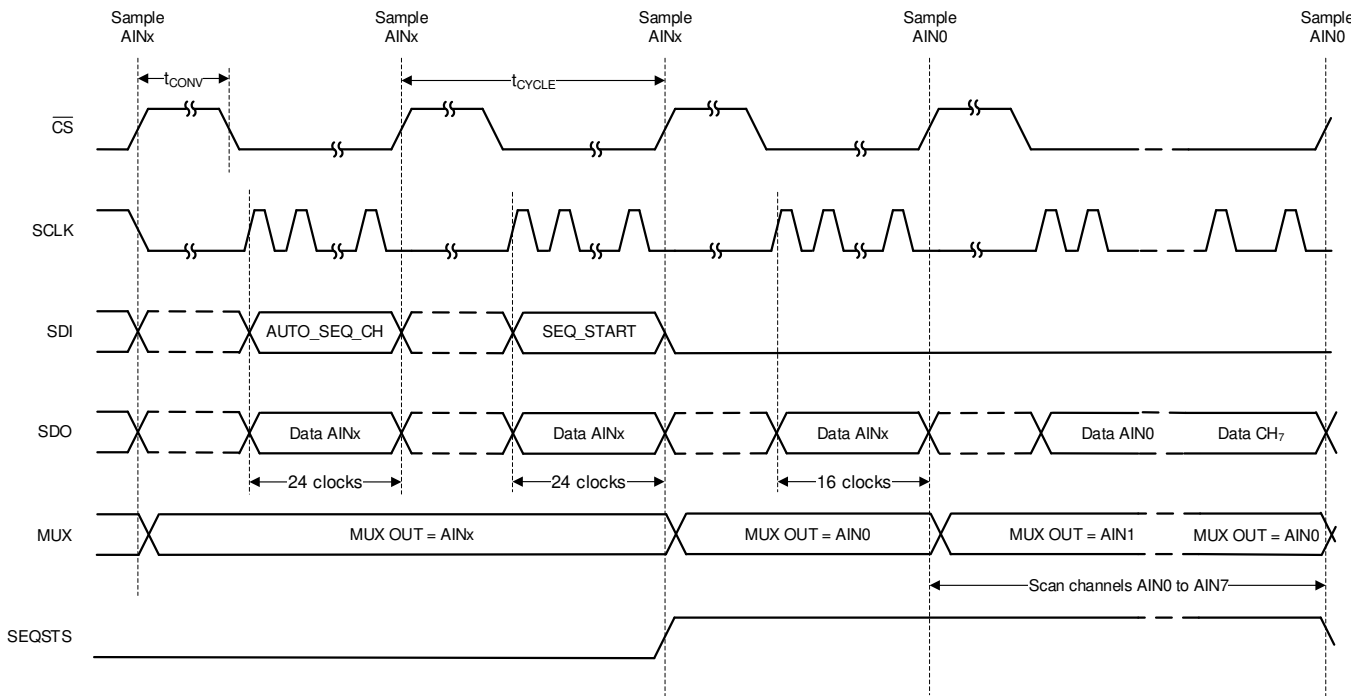
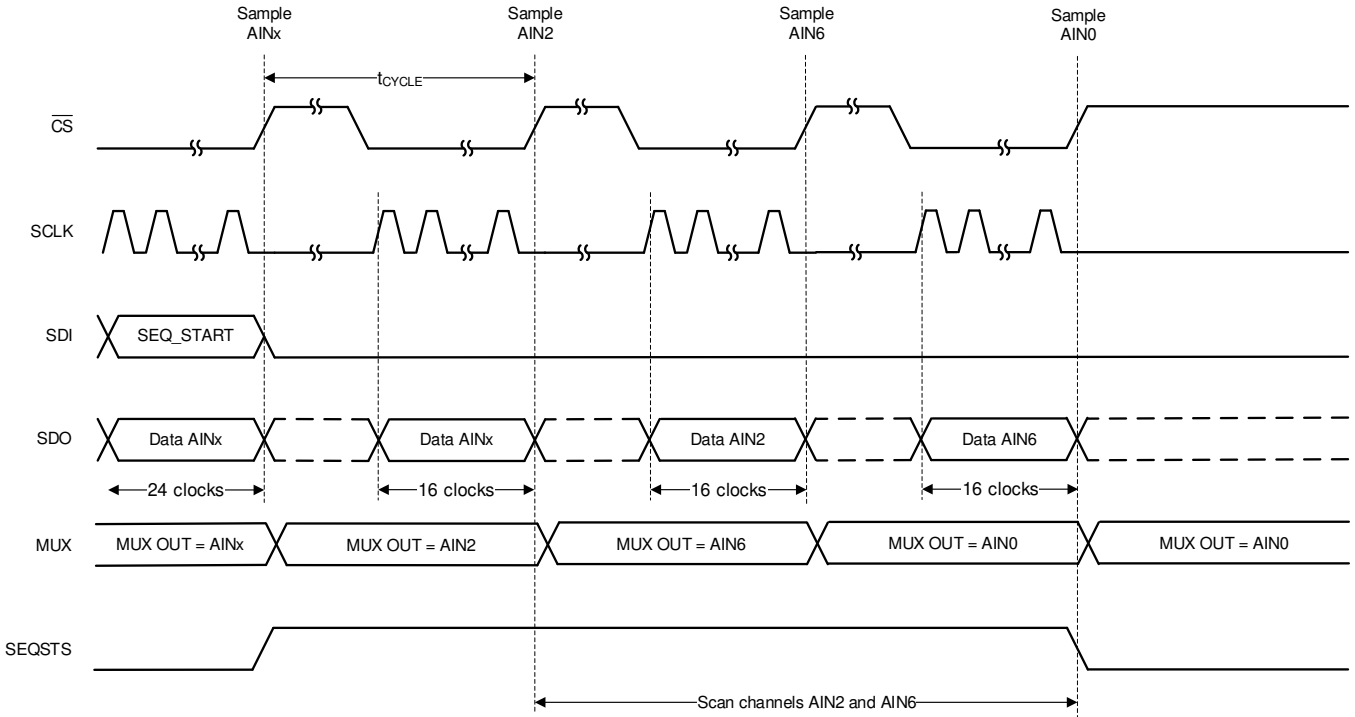

Figure 46. Starting a Sequence in Auto Sequence Mode
Figure 47. Example: Scanning Channels 2 and 6 in Auto Sequence Mode
In auto sequence mode, the internal channel sequencer can selectively scan channels from AIN0 through AIN7 in ascending order. To select auto sequence mode, configure SEQ_MODE to 10b in the DEVICE_CFG register using a 3-byte register access. One or more channels among AIN[7:0] can be enabled by configuring the AUTO_SEQ_CFG1 register. By default all analog input channels are enabled. After enabling the desired channels, the sequence can be started by setting SEQ_START to 1b. The ADC auto-increments through the enabled channels after every \overline{CS} rising edge. When SEQ_START is set to 1b, the SDO-1/SEQSTS pin is at logic 1 as shown in Figure 46 until the last channel conversion frame is complete. After the last enabled channel conversion is complete, channel AIN0 is selected and SDO-1/SEQSTS is in a high-impedance state.
As an example, Figure 47 depicts a timing diagram for when the device is scanning AIN2 and AIN6 in auto sequence mode. When AIN6 is converted, SDO-1/SEQSTS is Hi-Z and AIN0 is selected as the active channel. At the end of sequence, if more conversion frames are launched the device returns valid data corresponding to AIN0.
- Configure the AUTO_SEQ_CFG1 register. In Figure 47, AUTO_SEQ_CFG1 = 0x44.
- Configure the `AUTO_SEQ_CFG1` register. In Figure 47, `AUTO_SEQ_CFG1 = 0x44`.
After configuring the channel scanning order, start index, and stop index the scanning can be initiated by setting the SEQ_START bit to 1b. The ADC scans through the enabled channels after every CS rising edge as defined by the channel scanning order. When SEQ_START is set to 1b, the SDO-1/SEQSTS pin is pulled high until the last channel conversion frame is complete, as described in Figure 46. As illustrated in Figure 47, channel AIN0 is selected and SEQSTS/SDO-1 goes to Hi-Z after the last enabled channel conversion is complete.
As an example, Figure 47 provides a timing diagram for when the channel configuration is set as in Table 5. When AIN6 is converted, SEQSTS/SDO-1 goes to Hi-Z and AIN0 is selected as the active channel. If more conversion frames are launched at the end of the sequence, the device returns valid data corresponding to AIN0.
- Configure the CCS_START_INDEX and the CCS_END_INDEX registers. In Figure 47, CCS_START_INDEX = 0 and CCS_STOP_INDEX = 1.
- Configure the CCS_SEQ_LOOP register to 1 to indefinitely loop the sequence. In Figure 47, the CCS_SEQ_LOOP register = 0b.